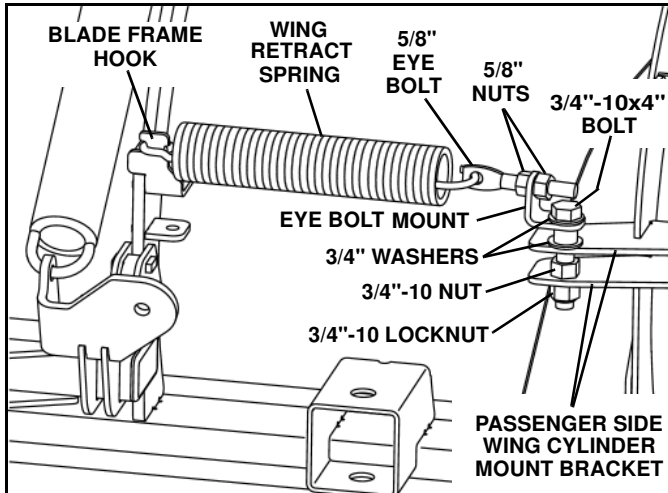

Figure 2-8
7. Slide the closed end of the wing retract spring over the hook on the blade frame. (See Figure 2-8).
8. Insert the other end of the wing retract spring thru a 5/8" eyebolt. Thread a 5/8" nut onto the eyebolt until there are 4-6 threads showing between the nut and the eye of the eyebolt. Inert the eyebolt thru the eye bolt mount and secure with a 5/8" nut. (See Figure 2-8).